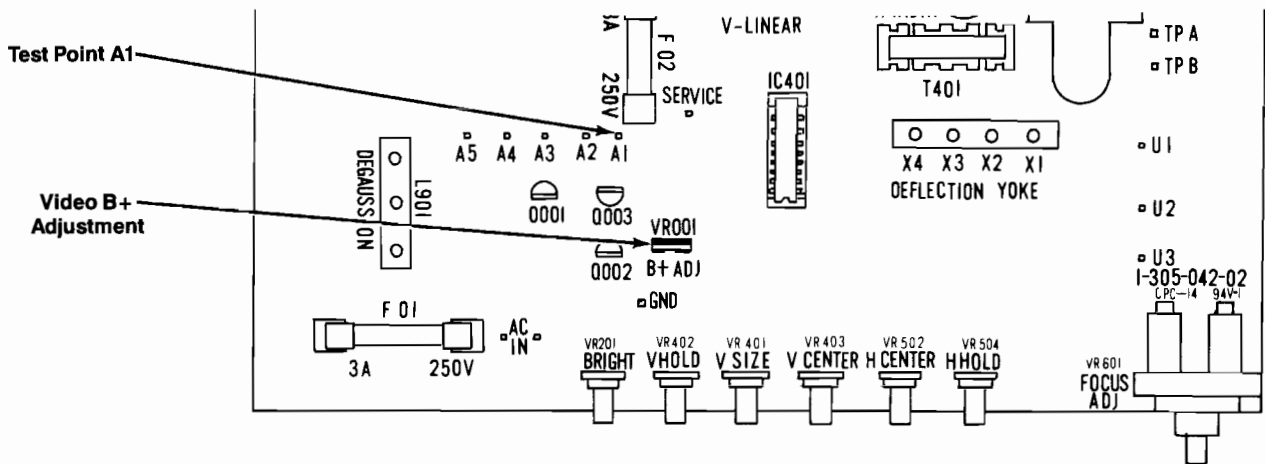

Figure 8 Locations of Video B+ Adjustment VR001 and Test Point A1
4. Connect the plus lead of the voltmeter to test point A1, which is shown in Figure 8.
6. Adjust VR001 on the Main PCB, shown in Figure 8, for a voltmeter reading of +115 volts.